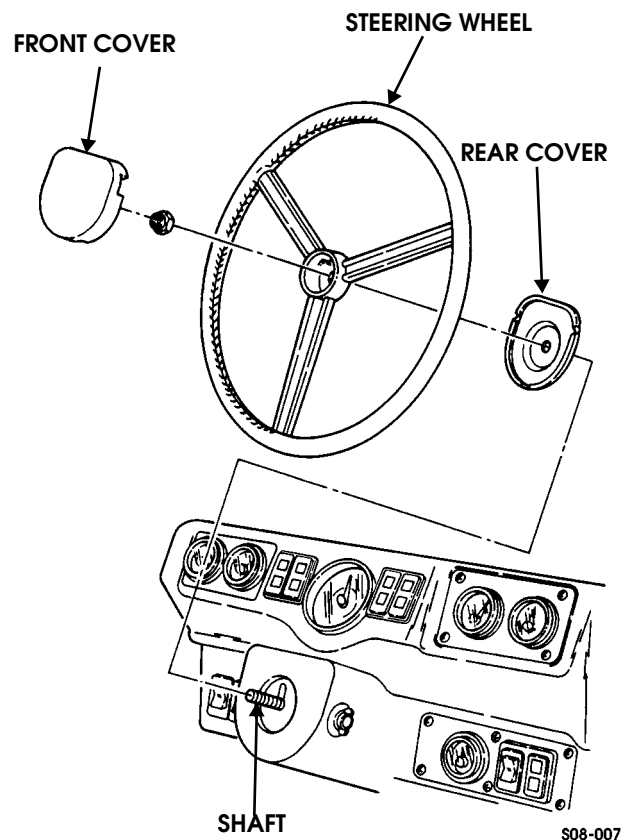

Figure 8-8: Steering Wheel Removal
1. Gain access to nut by removing three screws that hold front cover to rear cover (Figure 8-8).